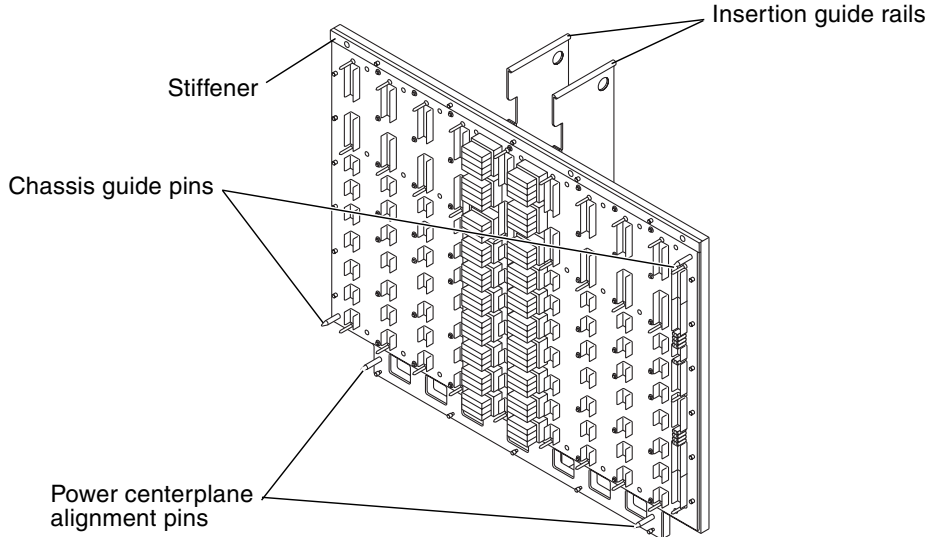

FIGURE 13-1 Sun Fireplane Interconnect—Front and Rear View
3. Fully release the twenty-two (22) Phillips captive screws from the perimeter of the Sun Fireplane interconnect assembly stiffener (FIGURE 13-1).